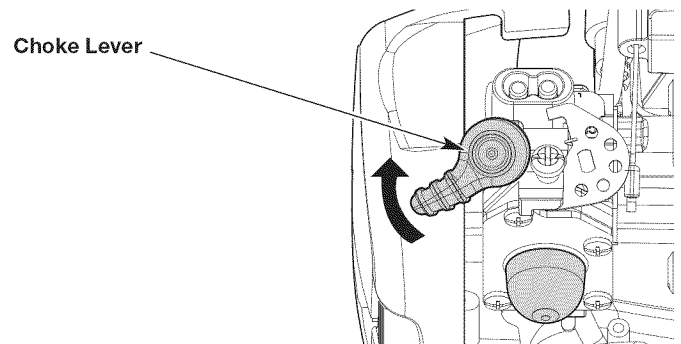

Fig. 11
4. Flip the choke lever clockwise until it clicks (Fig. 11).